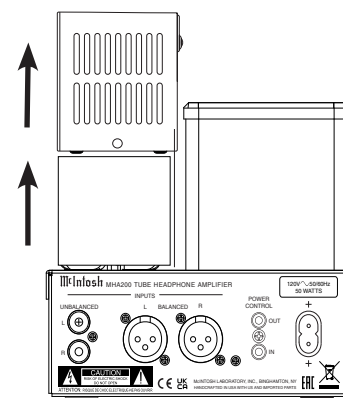

Figure 02— Lift Tube Cover and foam up
- Pull the Tube Cover upward off of the Tube Cover Retaining Posts (see Figure 02)
- Pull the protective foam straight up off the Vacuum Tubes (see Figure 02)